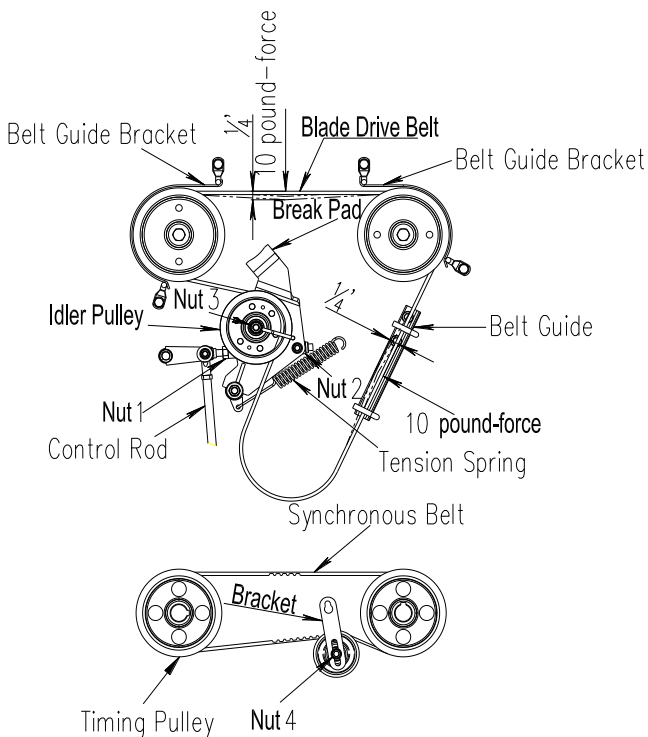

FIG 9
- Remove the belt cover. Adjust the mower deck belt using a belt tension gauge. Engage the blade drive lever, tension the mower belt, and adjust the belt so that the belt moves 1/4" with 10 pounds of pressure. Adjust the tension by tightening or loosening the nut M10. (See FIG 9).
- Engage the blade drive lever, loosen the nut, tension the waist-shaped hole forward. Make sure the belt tightening is suitable. (Give the belt tension side the force of 1-2KG, the belt deflection is 7-9mm) (See FIG 9)
- Remove blade transmission belt according to reference method 5.2.2, then loosen nut in the idler pulley, take the synchronous belt from the axis pin, then install the new synchronous belt in reverse order. (See FIG9)
- Remove the belt cover, turn the shift arm, move shift arm away from pulley, remove bolts and nuts, replace with new brake pad, install bolts and nuts, and make blade brake pad aim at the belt pulley groove center, then screw down the nut. Test blade brake system; blade brake pad can make rapid rotary blades stop running in 3 seconds. (See FIG 9)